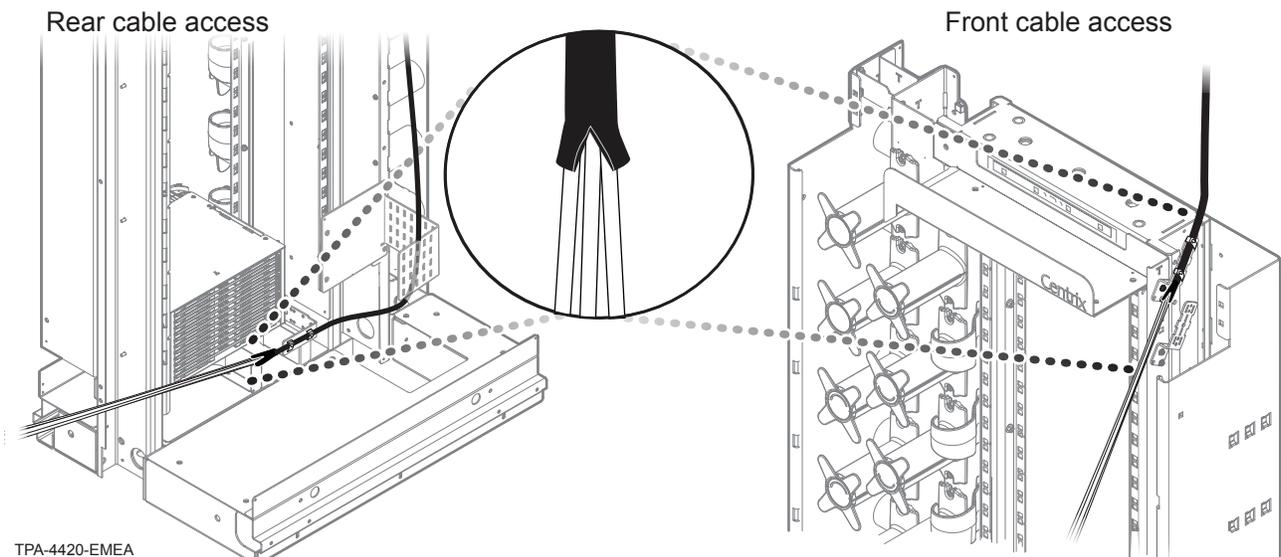

Figure 13
**Step 2:** Insert transport tubes under slit in sheath (Figure 13).